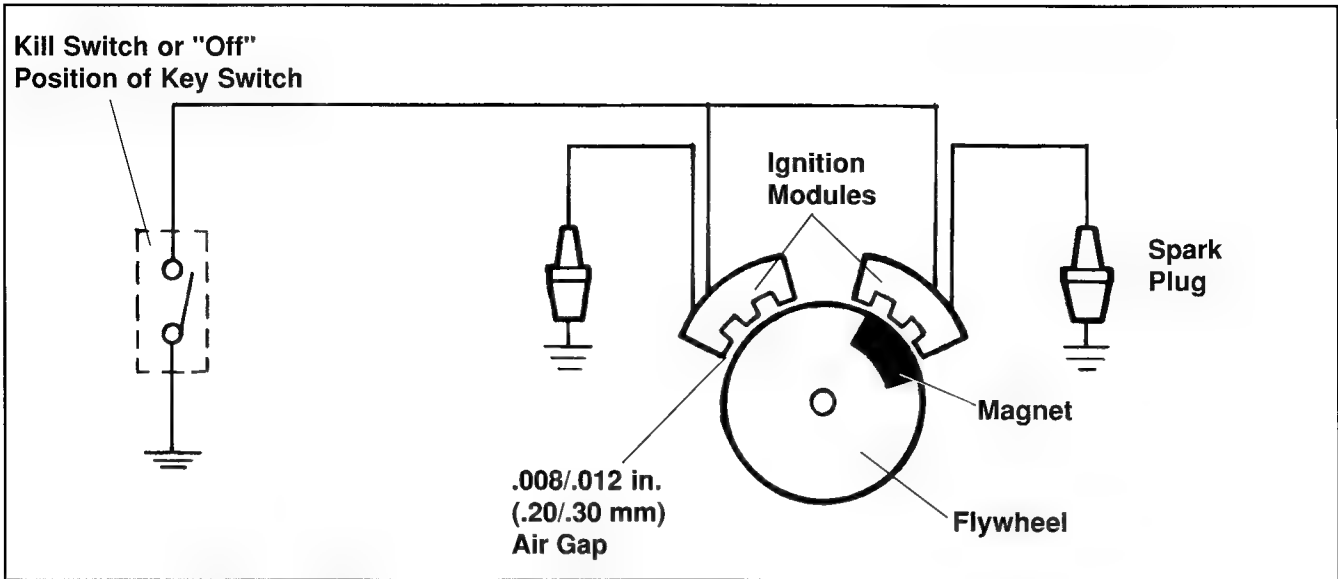

Figure 8-3. Capacitive Discharge Ignition System.
- Two electronic capacitive discharge ignition modules which mount on the engine crankcase (Figure 8-3).